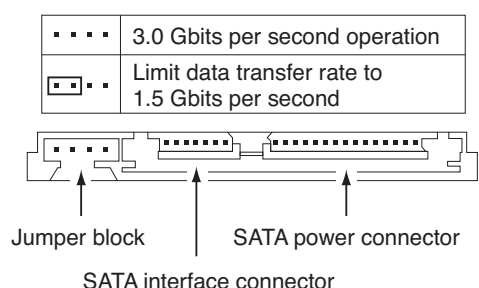

Figure 1. Serial ATA connectors
- Install a jumper as shown in Figure 1 below to limit the data transfer rate to 1.5 Gbits per second (and leave the drive connected to the SATA-equipped motherboard or host adapter that doesn’t support autonegotiation) or
- Install a SATA host adapter that supports autonegotiation, leave the drive jumper block set to “Normal operation” (see Figure 1 below), and connect the drive to that adapter. This option has the benefit of not limiting the drive to a 1.5 Gbits/sec transfer rate.